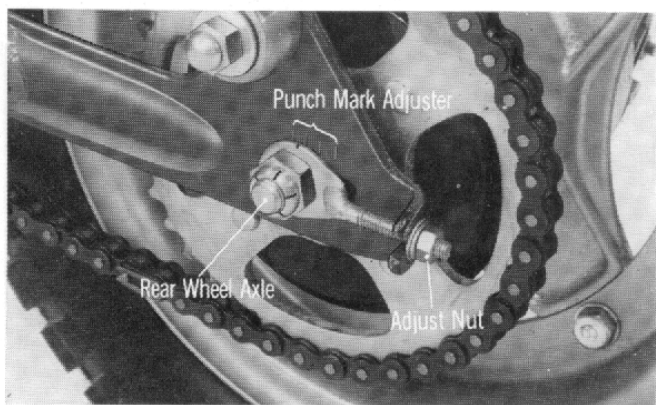

Fig. 99
- (3) After reassembly, check L and R chain tension adjuster, they should both be set to the same alignment marks. Improper adjustment will affect the steerability. (Fig. 99)